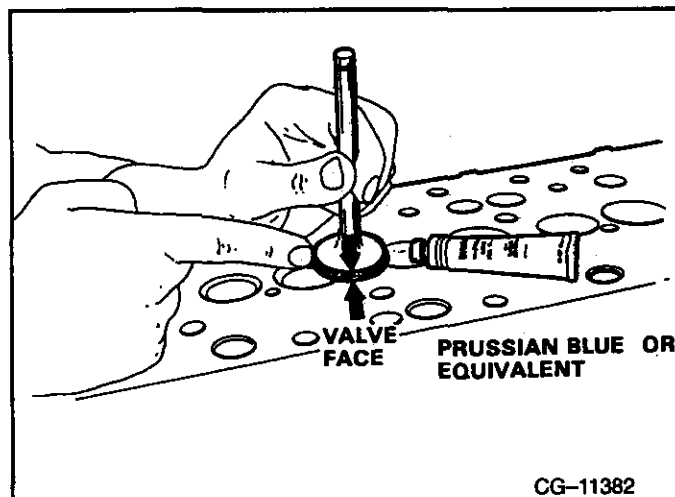

FIGURE 7-39
- a. Spread thin film of Prussian Blue™ on valve face. Insert valve into its guide. Refer to **FIGURE 7-39**.